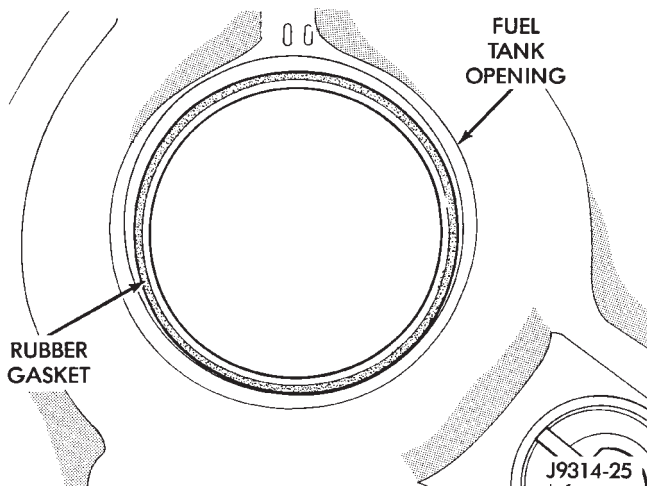

Fig. 3 Rubber Gasket
(1) Clean the fuel tank at the module opening.
(2) Using a new gasket on the fuel tank (Fig. 3), position fuel pump module into opening in fuel tank.